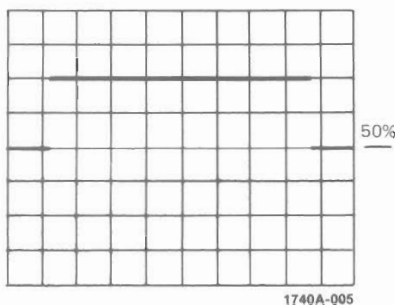

Figure 3-4. Magnified Display
c. Press MAG X10 **33** and adjust horizontal FINE **26** for precise placement of magnified display (see figure 3-4).